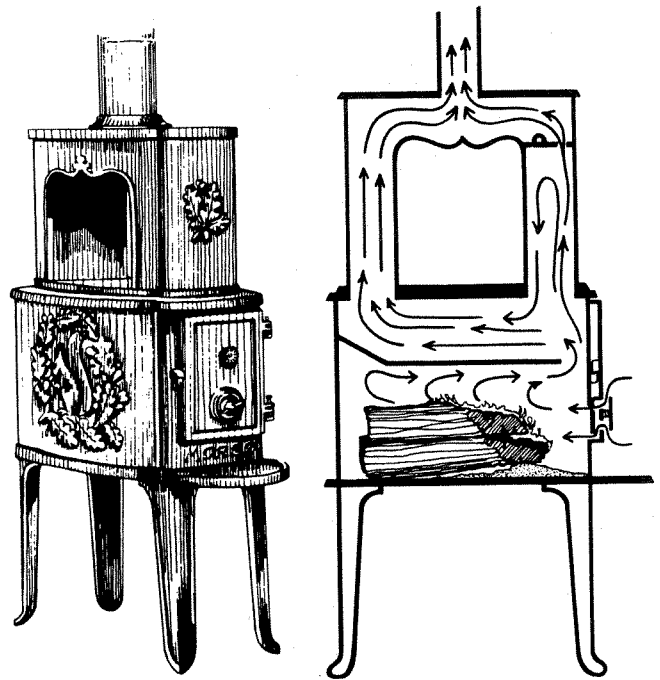

Fig. 16. Morse Model 1BO box stove (left) showing smoke flow-pattern and baffle system (right).
20. **Southport Stoves**, Division of Howell Corporation (importer), 248 Tolland St., East Hartford, CT 06108. The Morsø cast-iron stoves (Fig. 16 and Table 1) have been made since 1853 by N.A. Christensen Co. of Denmark. Many of their early designs are now in art museums. The iron is cast in